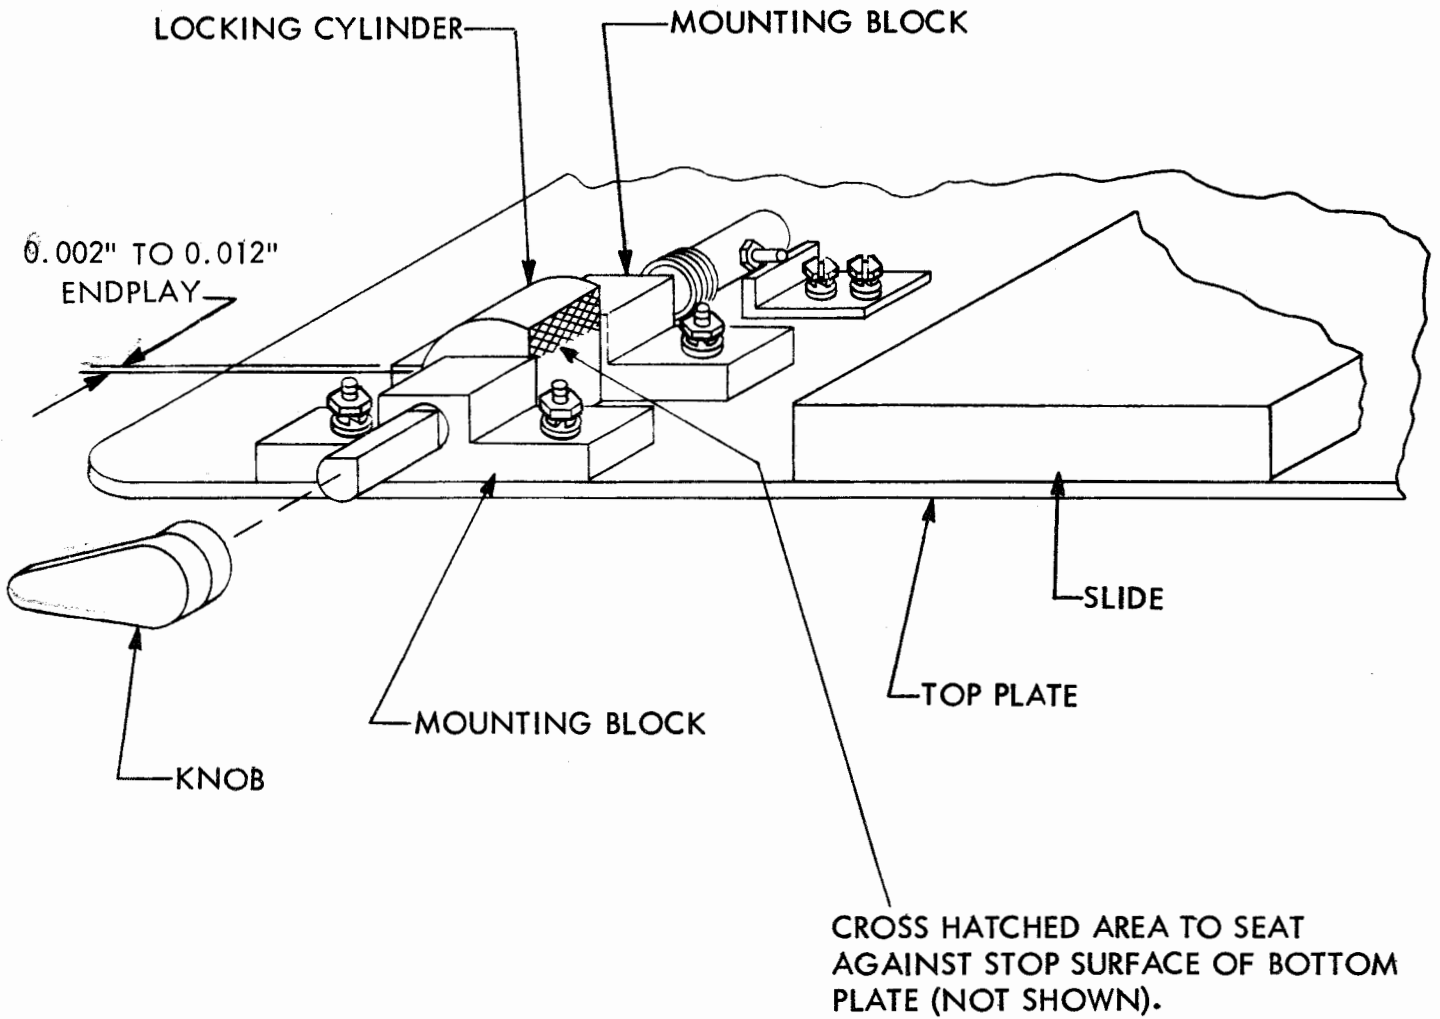

FIGURE 1. SLIDING BASE ASSEMBLY (174459)
k. SLIDING BASE ASSEMBLY (174459) - Figure 1.
(1) Quick-Disconnect Latch - When the slide is in the fully retracted position, the locking cylinder should be firmly seated against the stop surface of the bottom plate. Also, there should be 0.002" to 0.012" endplay between the locking cylinder and the two mounting blocks. To adjust, position the two mounting blocks with their four mounting screws loosened. Tighten the screws.
(2) Stabilizing Bracket - Each of the four permanent stabilizing segments of the lower base plate should engage firmly each of the four adjustable stabilizing/stop plates of the upper base plate when the slide is in the fully retracted locked position. To adjust, loosen (friction tight) the two mounting screws that fasten each of the four stabilizing/stop plates to the upper base plate and position the four plates. Tighten the screws. Check to see that there is no rotation when the top and bottom plates are rotated toward each other without bending either of the plates.
(3) Quick-Disconnect Knob - There should be 3/32" to 9/64" clearance between the two knobs and the cover (LRC) when the knobs are in the open position. To adjust, position each of the knobs with its two set screws loosened. Tighten the set screws.
c. SLIDING BASE ASSEMBLY (174459) - FIGURE 1
(1) Two or three drops of oil at each of the locking cylinder and mounting block bearing points.
(2) Apply a thin coat of grease to the flat, and its side edges, of each locking cylinder.
(3) Apply a thin coat of grease on all bearing and sliding surfaces of the slide.